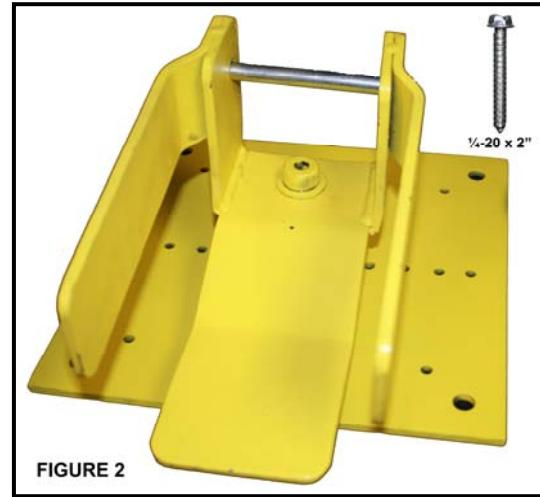

FIGURE 2
Step 4. Screw in the eight center self-tapping screws ($\frac{1}{4}$ -20 x 2 inch screws) through the metal decking and into the support structure making sure all eight screws are protruding through the purlin. (Refer to Figure 2)
Step 5. Screw in the four corner self-tapping screws ($\frac{1}{4}$ -20 x 2 inch screws). (Refer to Figure 2)